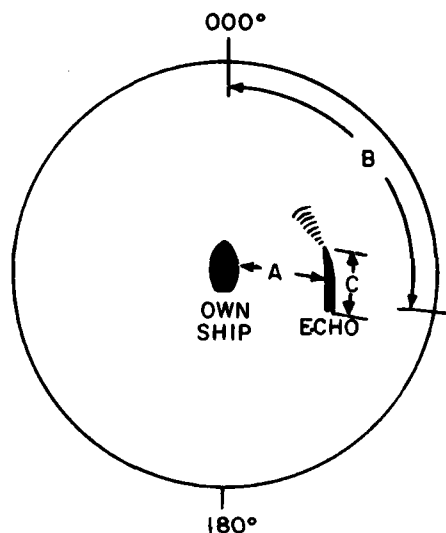

Figure 3C.--Sonar CRT display.
● Refer to figure 3C and use the following alternatives for items 3-40 thru 3-42.